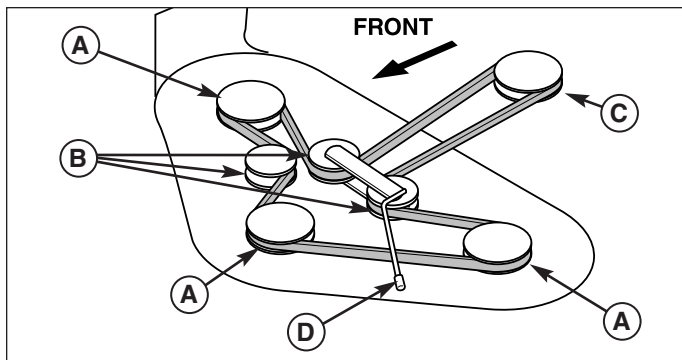
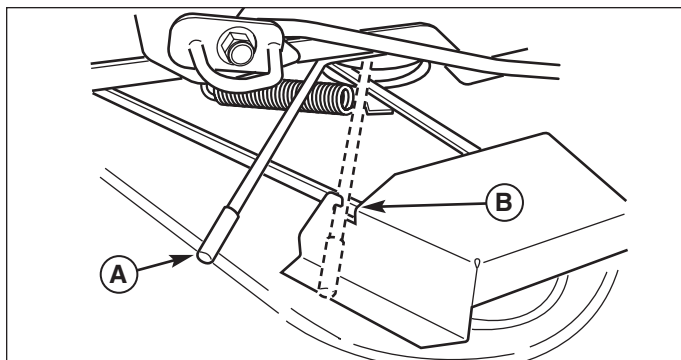

Figure 10. Mower Belt Routing
Figure 11. Release Belt Tension
3. Pull the lever (A, Figure 11) towards the rear of the machine to release tension on the mower belt. Secure the lever in the guard notch (B) and remove the mower belt from the PTO pulley (C, Figure 10).
8. Install the belt as shown in Figure 10.
9. Release tension from the tensioning idler pulley using the belt tension lever (A, Figure 11) and make sure the belt is seated properly in all pulleys.